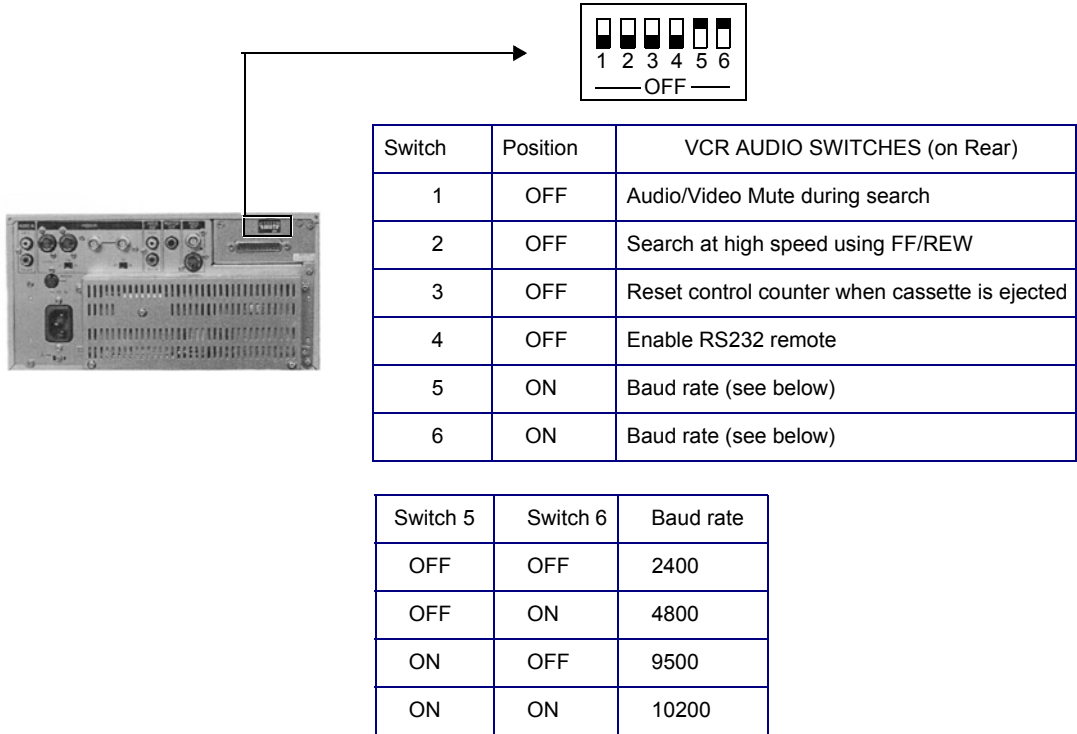

Figure 8-128 Sony VCR - Switches Setting (Rear Panel)
- 6.) Verify that the switches on the VCR rear panel are as shown in Figure 8-128 below. If necessary, adjust accordingly.